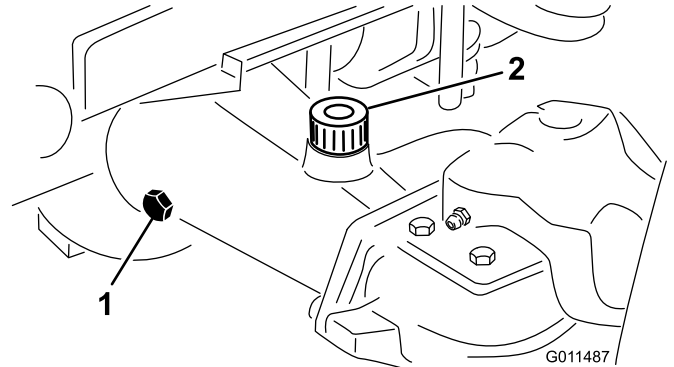

Figure 13
2. Remove a check plug from one end of the axle (Figure 13) and make sure that the lubricant is up to the bottom of the hole. If the level is low, remove the fill plug (Figure 13) and add enough lubricant to bring the level up to the bottom of the check plug holes.